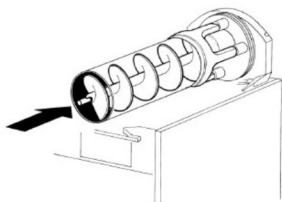

figure 10
- 4.Insert the auget into the evaporator taking care to accompany it to the end so as to prevent it from hitting against the rear wall (fig.10).Install the outer spiral. Slide it over the evaporator until its front notch engages with the exposed end of the auger shaft(fig.11)